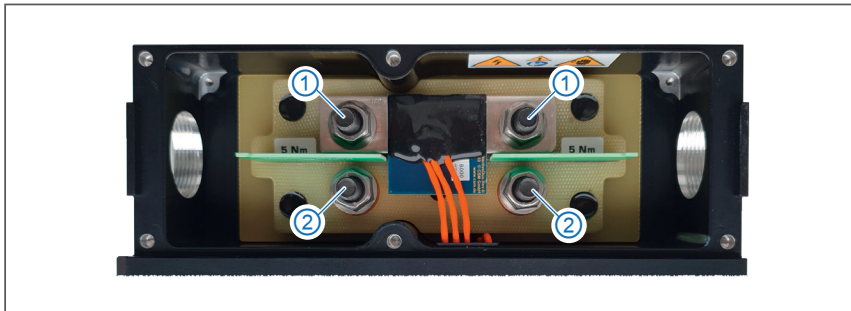
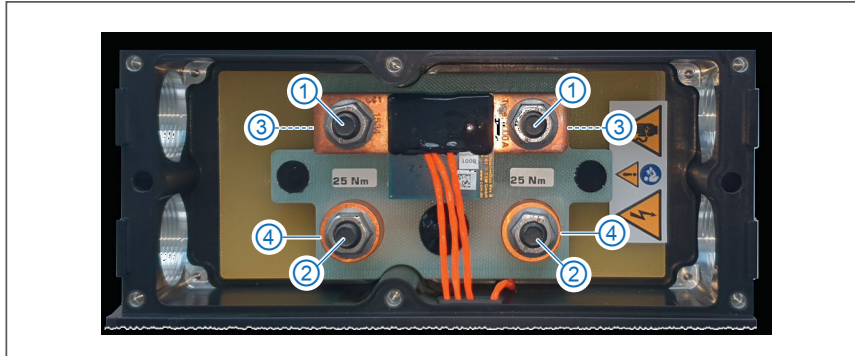

Fig. 5-4: HV BM 1.1, connections for HV power cables
Fig. 5-6: HV BM 1.2, connections for HV power cables
The tightening torque for mounting the ring terminals of the HV+ cables on the threaded bolts of the copper domes (Fig. 5-4, ②/Fig. 5-6, ②) is always 25 Nm.